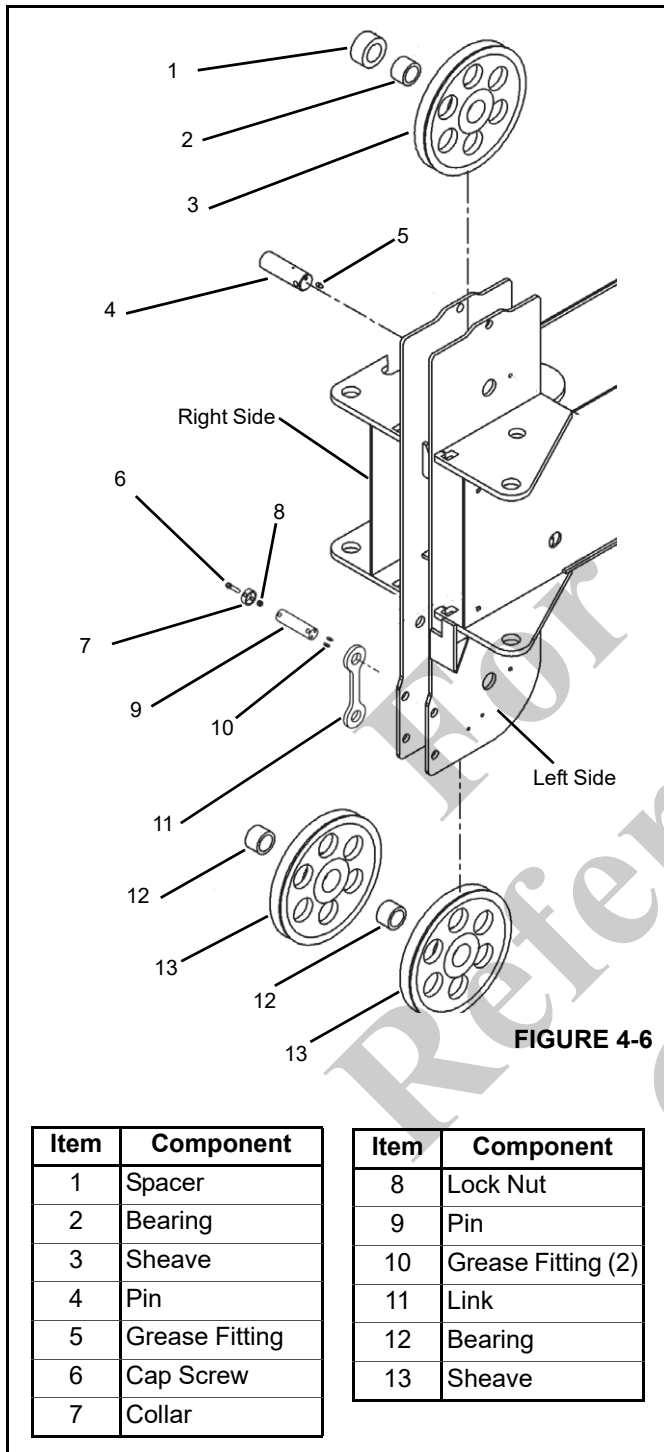

FIGURE 4-6
1. Assemble the sheaves into the 4th section sheave case. The top sheave is to be installed to the left hand side of the boom with the spacer to the right hand side (Figure 4-6).